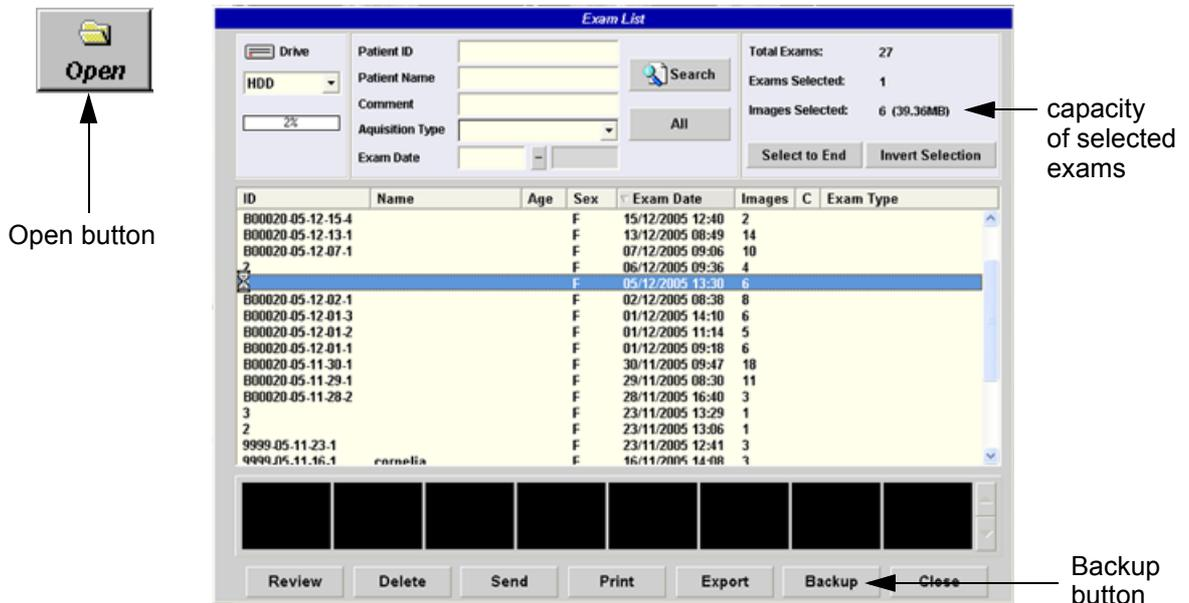

Figure 4-30 Sonoview Screen
- 3.) When you click the **OPEN** button on the upper left side of the screen, a list of all the exams is displayed see Figure 4-30.